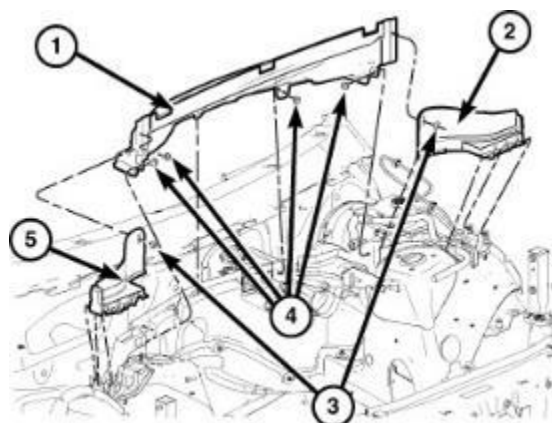

Figure 6 - Cowl Extension and Side Extensions
9. Remove the cowl extension (1) and the side extensions (2), (5) (In Service Library refer to 23 - Body/Exterior/SILENCER, Cowl Extension/Removal) (Figure 6).